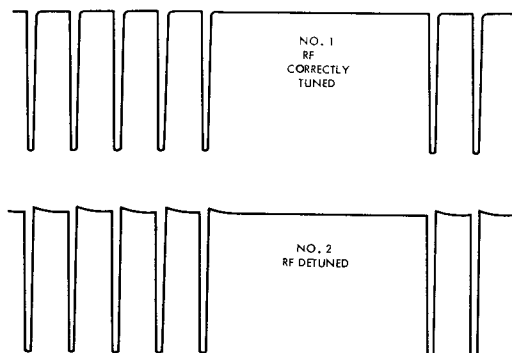

Figure 39. Demodulated RF Output Pattern
- 214. Using a plastic hexagon tuning wand, set tuning slug on antenna coil ③ flush with outer end of coil.
- 215. With antenna fully extended, turn transmitter ON. While observing oscilloscope for wave patterns, turn screw on oscillator capacitor ① clockwise until the oscillator starts. Adjust for peak signal on scope, and turn screw approximately fifteen degrees more clockwise beyond peak to "lock" oscillator in (until power output begins to fall off).
- 216. Adjust tuning capacitor ② clockwise until waveform peaks and approximates the output of figure 39.
- 217. Alternately adjust tuning slug ③ and capacitor ② until definite peaks are obtained and the observed waveform is similar to the illustration.
- 219. When tuning is complete, hold transmitter in both hands and press it tightly against the body. Turn switch OFF and ON several times to make certain oscillator starts each time. If not, turn capacitor ① clockwise slightly more to "lock" in oscillator.